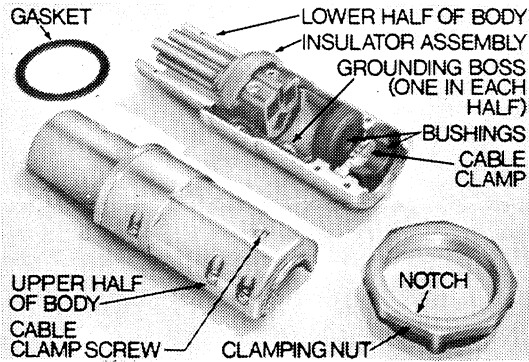

FIGURE 1. TYPICAL APJ PLUG
1. Remove gasket and clamping unit from plug assembly, turning clamping nut until notch can slide over boss. Completely back off screws in body and take halves apart. Set half with screws to one side until ready to re-assemble. (See Fig. 1.)